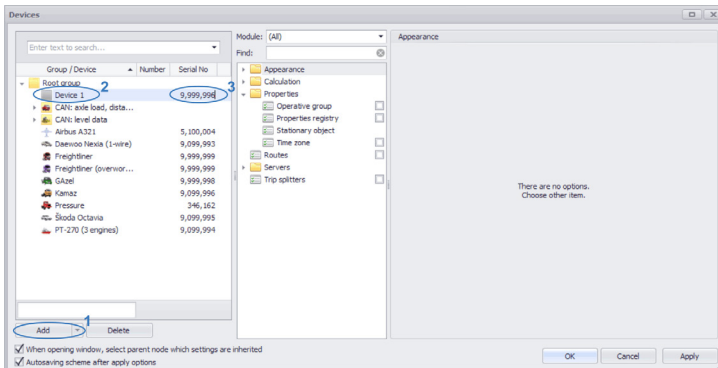

Fig. 35. Manual adding of a new device.
- Then click the “Add” button or choose the “Add element” command in the shortcut menu. The button is located at the bottom of the list (Fig. 35, item 1).
- Enter a name of the new device (Fig. 35, item 2).
- Enter a serial number of the on-board controller in the “Serial No” field (Fig. 35, item 3).